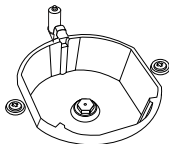
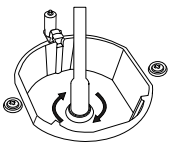

Figure 4
Figure 5
2. Please remove nozzle (figure 4) from burner with special nozzle driver and install new nozzle. (Figure 5)